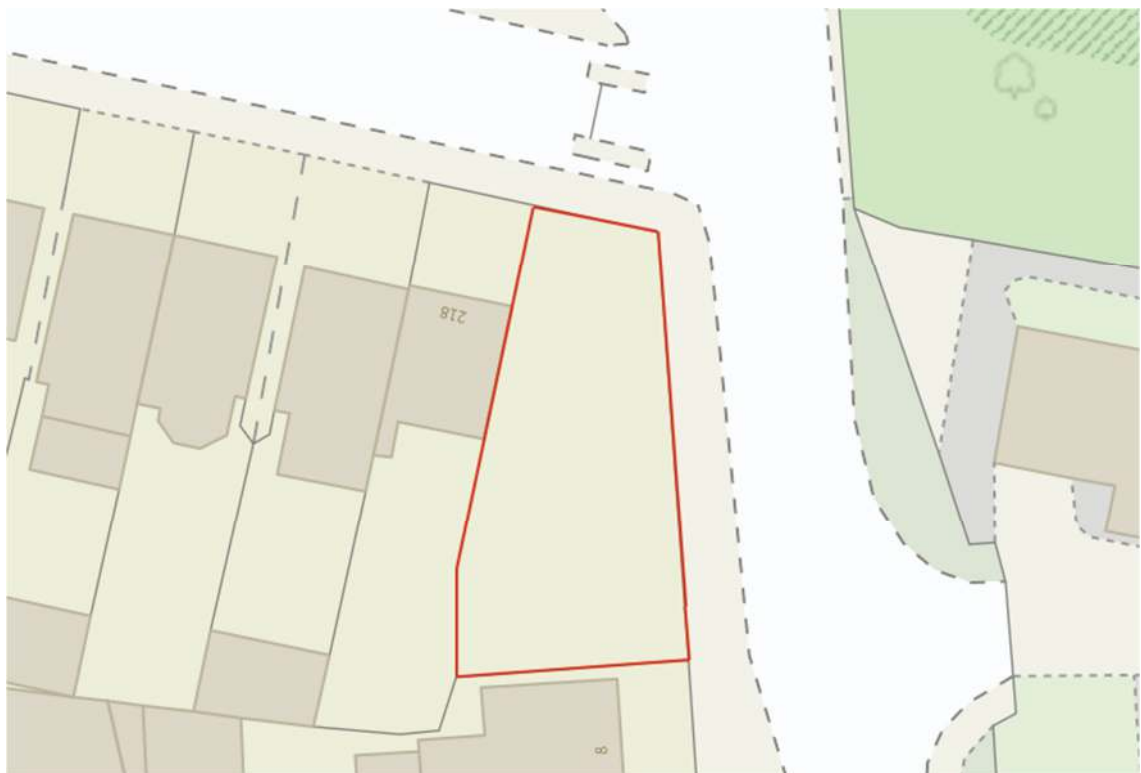

Figure 1 - Site location within red line boundary
- 3.1 The site is located at the land adjacent to 218 Nestle's Avenue, Hayes, UB3 4QG. The site boundary is outlined in Figure 1 below.